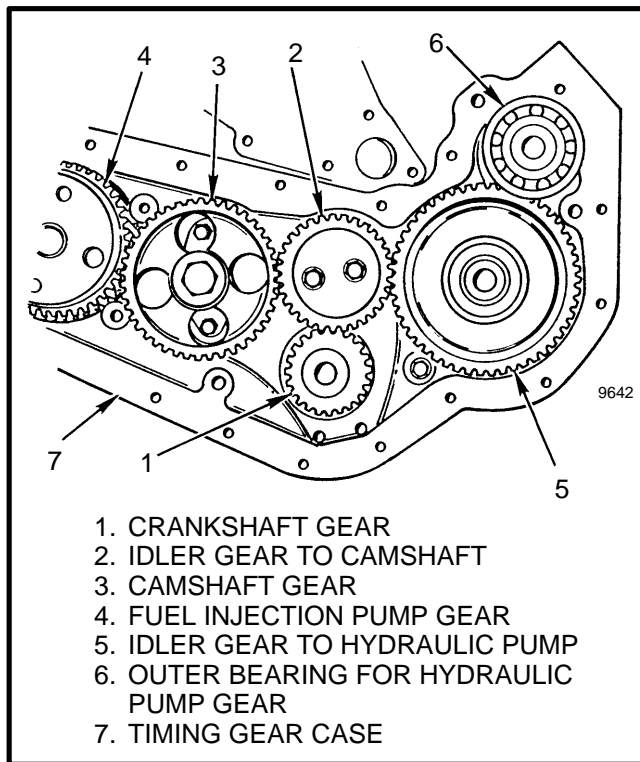

FIGURE 25. ARRANGEMENT OF THE TIMING GEARS
9. See FIGURE 25. Remove the retainer plate from the idler gear (2) for the camshaft. Remove the idler gear. Remove the shaft for the idler gear.
10. Remove the camshaft gear (3) and camshaft as described in the section for the Camshaft.
11. Remove the bearing and idler gear (5) for the hydraulic pump.
12. Use a puller to remove the crankshaft gear (1). Remove the key from the crankshaft.
13. Remove the outer bearing (6) and the drive gear for the hydraulic pump.
1. See FIGURE 25. Install the timing gear case (7) to the crankcase. Use a new gasket during installation. Tighten the capscrews evenly.
2. Install the crankshaft gear (1) and key.
6. See FIGURE 25. Install the larger idler gear (5) in the timing gear case. The bearing will be installed later.